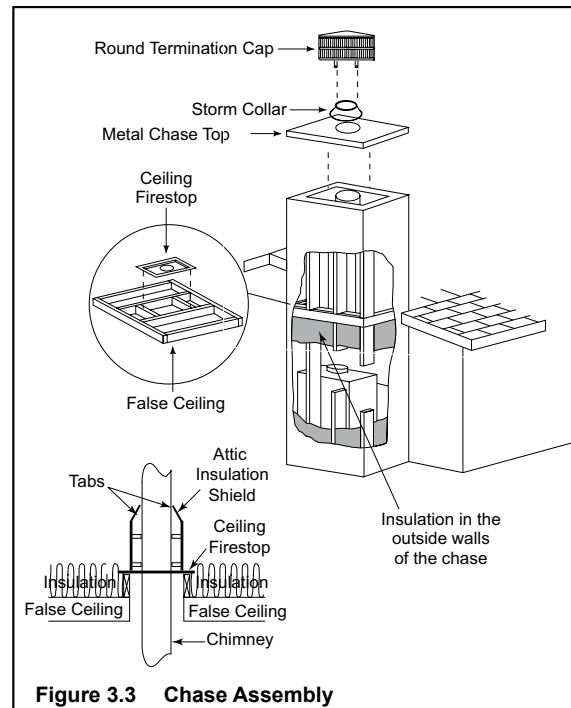

Figure 3.3 Chase Assembly
- In cold climates, the walls of the chase should be insulated to the level of the false ceiling as shown in Figure 3.3. This will help reduce heat loss from the home around the fireplace.